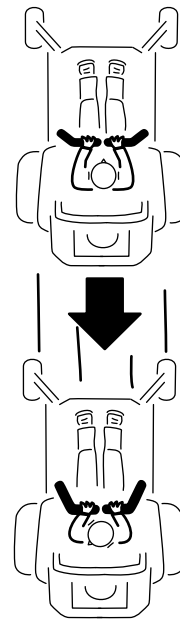

Figure 23
2. To go backward, look behind and slowly pull the motion-control levers rearward (Figure 23).